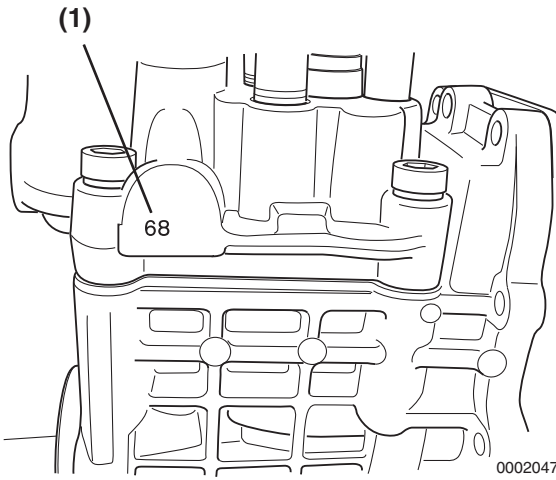

Figure 7-25
- Calculate the difference between the timing index numbers (**Figure 7-25, (1)**) of the fuel injection pump that you removed and the replacement fuel injection pump. See *Calculation Example below*.